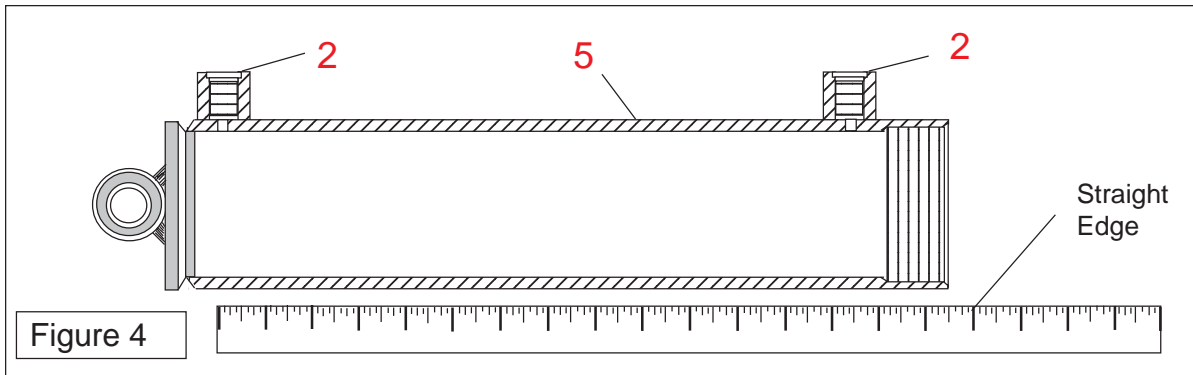
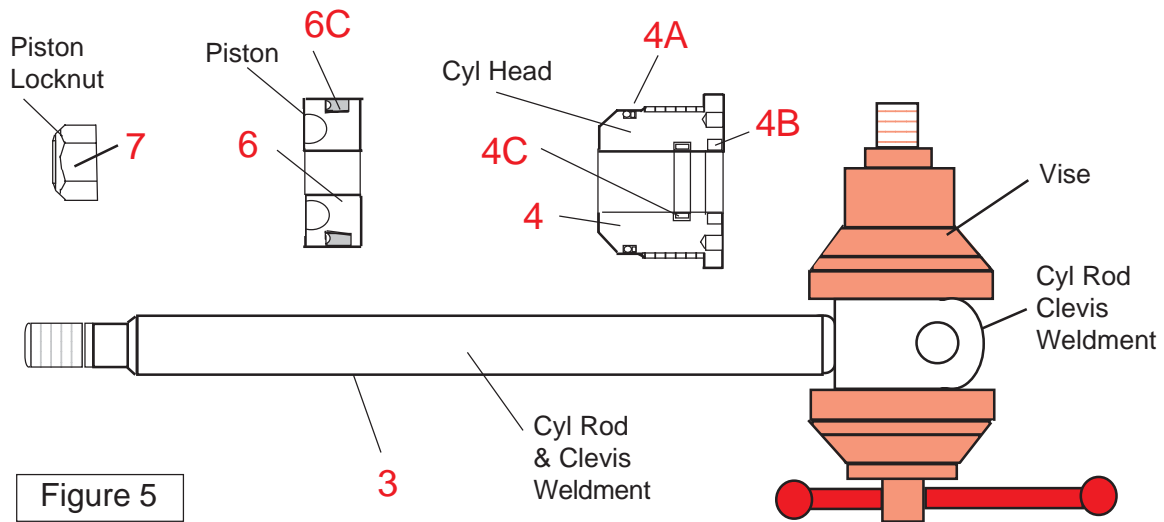

Figure 4
Figure 5
- Inspect the barrel, check for scratches, severe wear areas, distorted tube dia. If no serious damage is detected clean the Barrel (figure 4 item 5), this can be done with solvent or with pressure (Steam) washer. Inspect the tube closely, look at the OD of the tube for any dents or bulges. Inspect the ID of the tube for serious wear. Inspect the base mount to make certain it is not worn or damaged. Inspect the hose ports condition, check the threads in these ports.
3. Using a straight edge (figure 4) check the OD of the barrel in several places, look for high or low spot in the tube. Also use the straight edge top check the ID in several places, check to make certain there are no over sized wear places in tube.
5. Inspect threads in hose ports (figure 4 item 2) of barrel, if O-Ring Boss is used in ports inspect the area machined to seat O-Rings. Make certain the ports are clean and free of debris.
6. With the cylinder rod weldment still clamped in vice (figure 5) slide the cylinder head (figure 5 item 4) off the rod. Inspect and clean the cylinder rod, check the cylinder rod for any bend, scratches, metal flaking, rust spots or pitting. Use a straight edge (figure 4) to check for bends in rod. Check rod clevis mounting pin hole for wear or distortion. Check the threads and piston seat surface. If rod has been cleaned and is dry make certain to coat it with a light coat of oil.
7. Inspect the cylinder head general condition and the threads where it screws into the barrel (figure 5). When working on the cylinder head never clamp it in a vice as it is made of aluminum and could be damaged, be careful when removing old seals not to damage thread on OD of cylinder head. Remove the Seals from the Cylinder Head.
First remove the O-Ring and back up washer (figure 5 item 4A), when removing these note that the back-up washer is on the outward side with the O-Ring inward toward ID of Barrel.
Second remove the snap in rod wiper seal (figure 5 item 4B), make a note of the lip on seal that it is pointing outward to enable the lip to wipe the dirt from rod.
Third remove the inner Rod seal (figure 5 item 4C) by prying it out on one side until it is across the ID of the cylinder head, push the seal on out of the head using a nylon (plastic) rod and a light hammering on end of rod. Clean and inspect cylinder head. Check the ID of the cylinder head to make certain it is still round and without excessive wear.
8. Inspect the general condition of the piston (figure 5 item 6). Remove the U-Cup Seal (figure 5 item 6C) from the piston, make a note of which way the U-Cup seal came off the piston. Inspect the groove for the seal make certain it is not scratched or worn. Make certain the piston has not been struck and is deformed. Check the OD of the piston to make certain it is not scored or worn excessively around the OD, if it is it is recommended that a second look is taken at the cylinder head ID.
9. Inspect the threads of the locknut (figure 5 item 7), if they appear to be damaged, take a second look at the threads on the cylinder rod clevis weldment (figure 5 item 3). It is recommended that the piston locknut (figure 5 item 7) be replaced and not re-used.